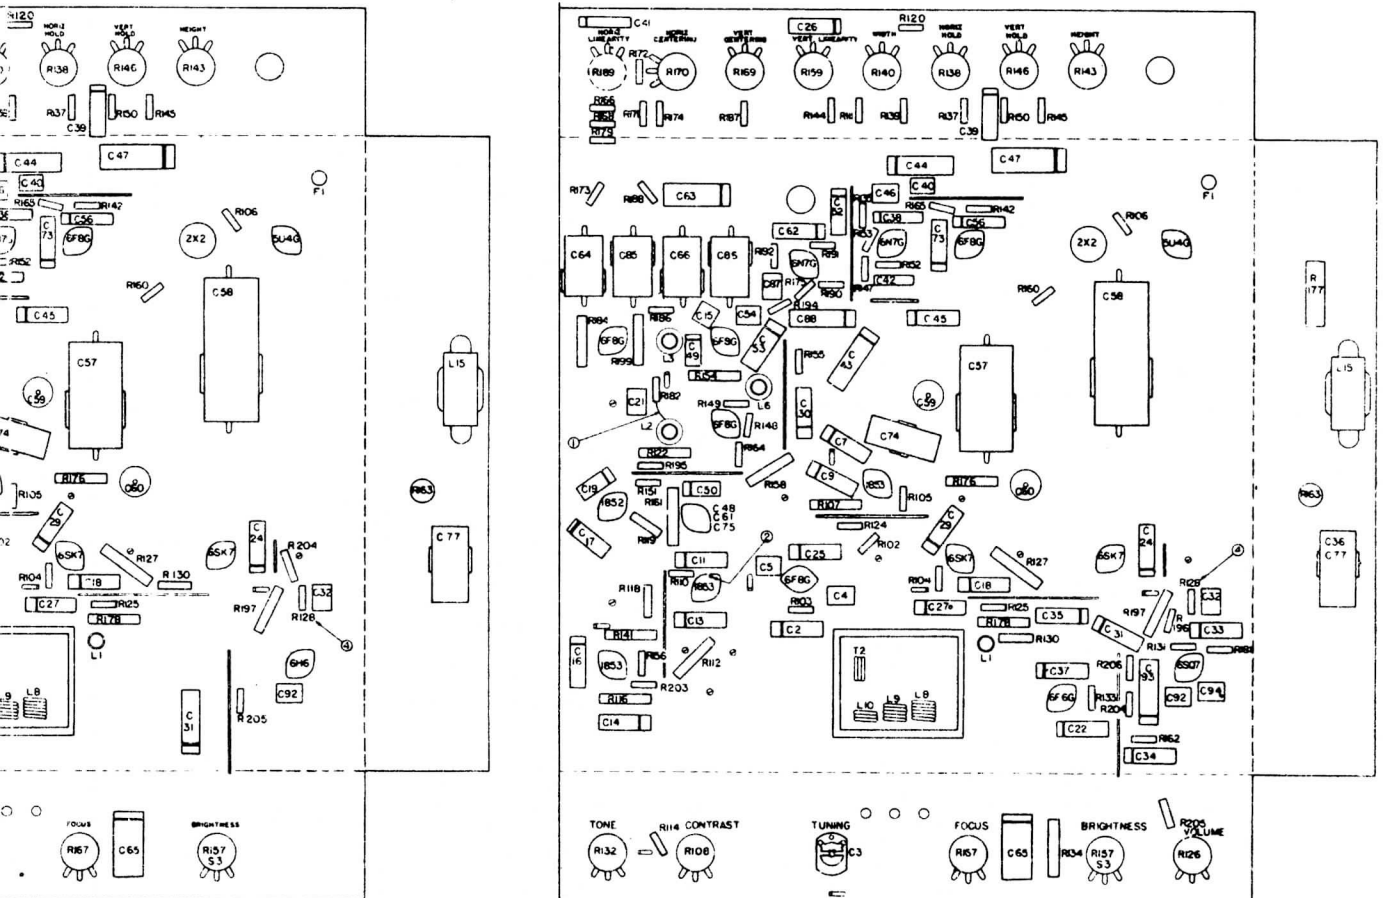

Fig. 4. Chassis Parts Layout Model HM-185
7. Adjust trimmers C-6E and C-7I until the 66-72 MC points appear on curve as shown in Fig. 4. It may be necessary to decrease the inductance of L-13 by spreading the coil in order to bring the 66-72 MC points at the proper place on the curve.